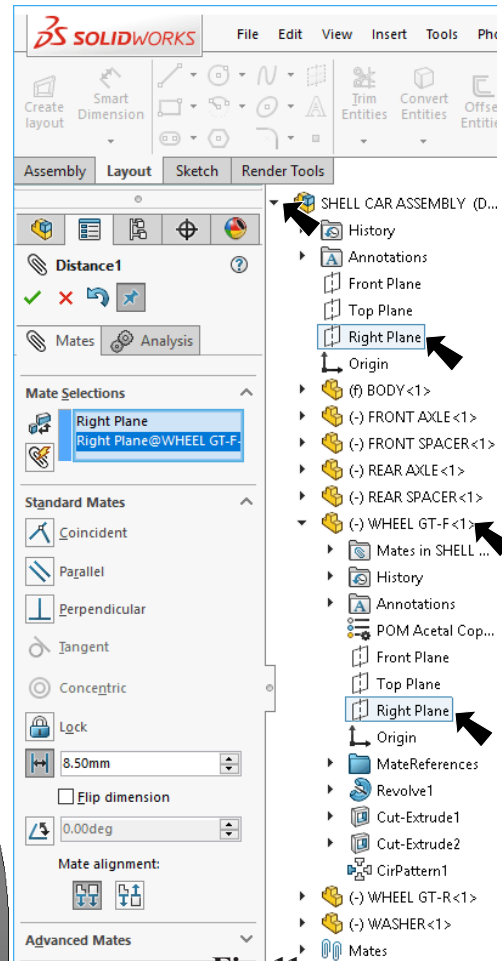

Fig. 11
Step 4. Expand the flyout Feature Manager design tree (click ) in the top left corner of the graphics area, expand **Front Wheel GT-F** and click **Right Plane** , **Fig. 11**.